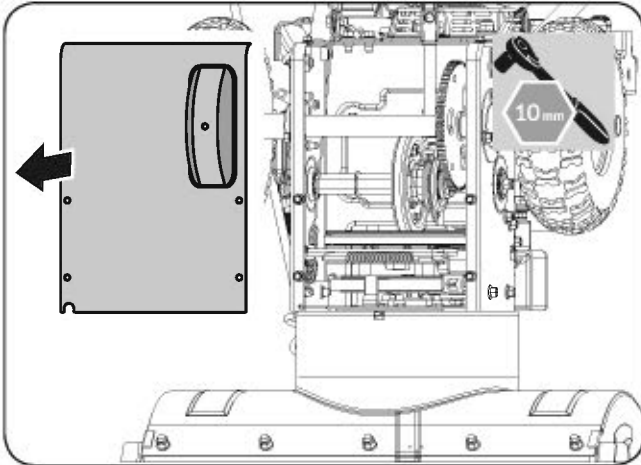

Figure 20c
- Remove the frame cover from the underside of the snow blower by removing the screws which secure the cover. (See **Figure 20c**)
- Remove bottom cover to avoid bending it when tipping unit apart. (See **Figure 20c**)
- Remove the frame cover(s) from the underside of the snow blower by removing the screws which secure the cover(s). (See **Figure 20c**)